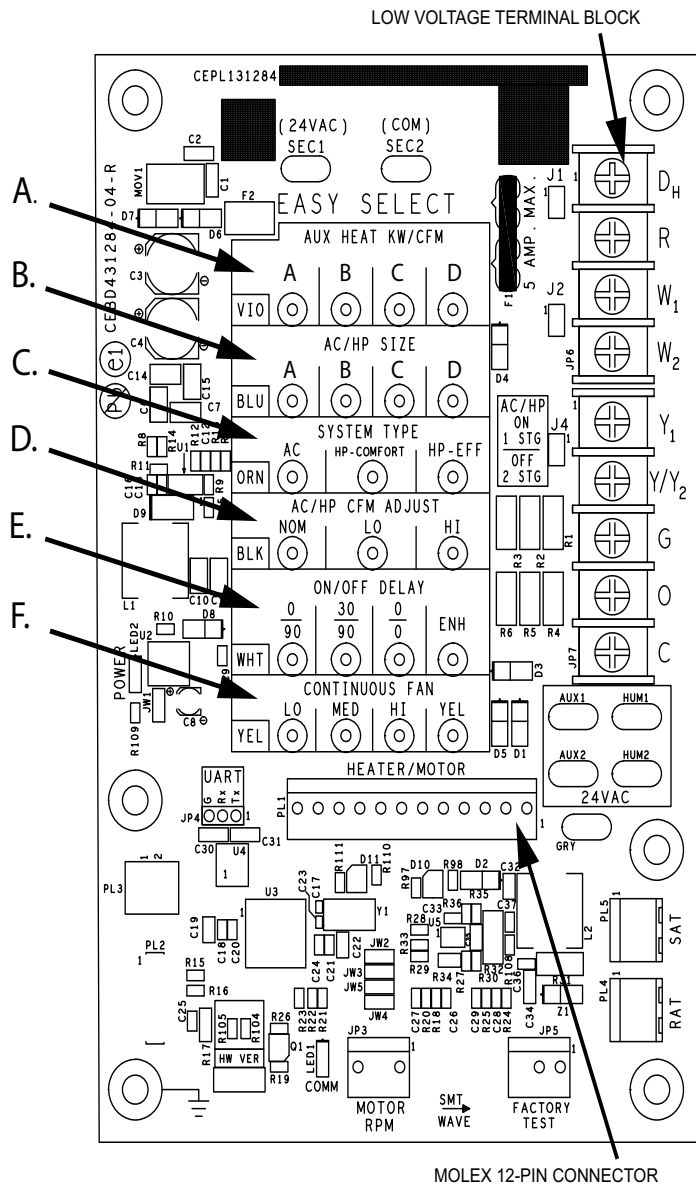
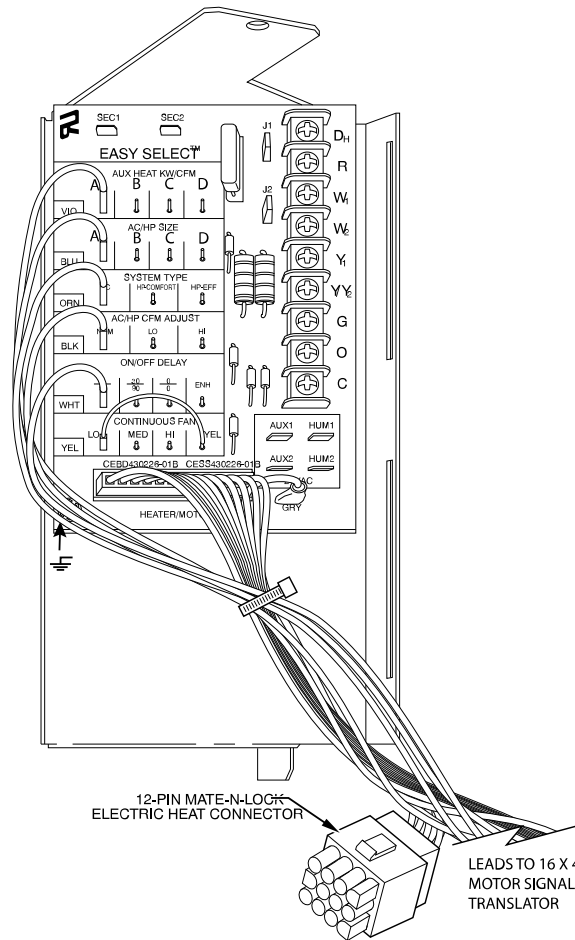

Fig. 24 – Detail of Printed-Circuit Board
Fig. 25 – Connection Detail of Printed-Circuit Board
Easy Select taps are used by the installer to configure a system. The ECM motor uses the selected taps to modify its operation to a pre-programmed table of airflows (see Table 8 and Table 10). Airflows are based on system size or mode of operation and those airflows are modified in response to other inputs such as the need for de-humidification (see Fig. 24 and Fig. 25 and Table 6).
Installer must select the auxiliary heat airflow approved for application with kW size heater installed. If no heater is installed, this step can be skipped. Each select pin is marked with a range of heaters for which airflow, also marked, is approved. For increased comfort select the narrowest kW range matching the heater size, for example, 0-10 for 10-kW heater. This airflow must be greater than the minimum CFM for electric heater application with the size system installed for safe and continuous operation (see Table 11 and Table 12 for airflow delivery and minimum CFM). Note that airflow marked is the airflow which will be supplied in emergency heat mode and heating mode on air conditioners when electric heat is the primary heating source. In heat pump heating mode when electric heaters are energized, the ECM motor will run the higher of heat pump heating airflow and electric heater airflow to ensure safe heater operation. The factory selection is the largest heater range approved (see Fig. 24, A as indicated).
The factory setting for air conditioner or heat pump size is the largest unit meant for application with the model of fan coil purchased. Installer needs to select air conditioner or heat pump size to ensure that airflow delivered falls within proper range for the size unit installed. This applies to all operational modes with the exception of electric heat modes (see Fig. 24, B as indicated).
3. HP-EFF - Heat Pump Efficiency provides same airflow for heating and cooling modes to increase overall HP efficiency; approximately 350 CFM per ton. The factory setting is AC. (See Fig. 24, C as indicated.)
To provide airflow at rates described above, the AC/HP ADJUST select is factory set to the nominal (nom) tap. The adjust selections HI/LO will regulate airflow supplied for all operational modes, except non-heat pump heating modes. HI provides 15% airflow over nominal unit size selected and LO provides 10% airflow below nominal unit size selected. Adjust selection options are provided to adjust airflow supplied to meet individual installation needs for such things as noise, comfort, and humidity removal (see Fig. 24, D as indicated).
Four motor operation delay profiles are provided to customize and enhance system operation (see Fig. 24, E as indicated). Selection options are:
3. HI speed - move connector of HI, 100% cooling mode airflow (see Fig. 24, F as indicated).
The following fan coil configuration is recommended for maximum heating and cooling/dehumidifying comfort (see Fig. 24):
7. If the fan coil is installed with Heat Staging capable electric heaters, remove jumper J2 (see Fig. 24).
The AUX and HUM terminals on the Easy Select Board are tied directly to the G terminal, and provide a 24VAC signal whenever the G terminal is energized (see Fig. 24).